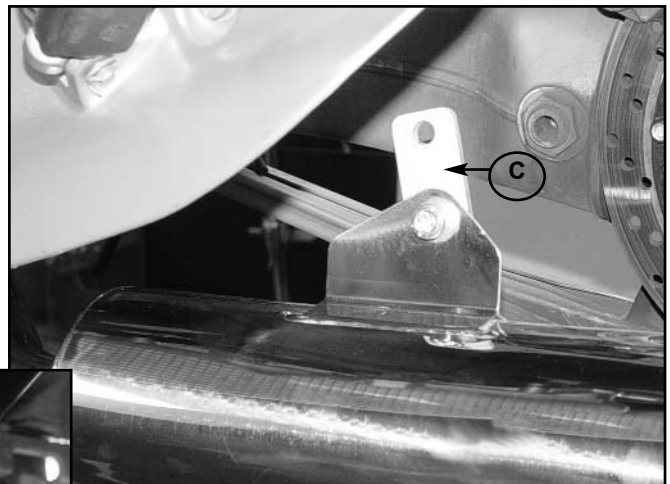

Figure 13
Attach the **Short Adapter Bracket (C)** to the hanger on the Muffler Assembly using the M10 x 20 Screw, two Washers, and the M10 Nut. **Figure 13.**